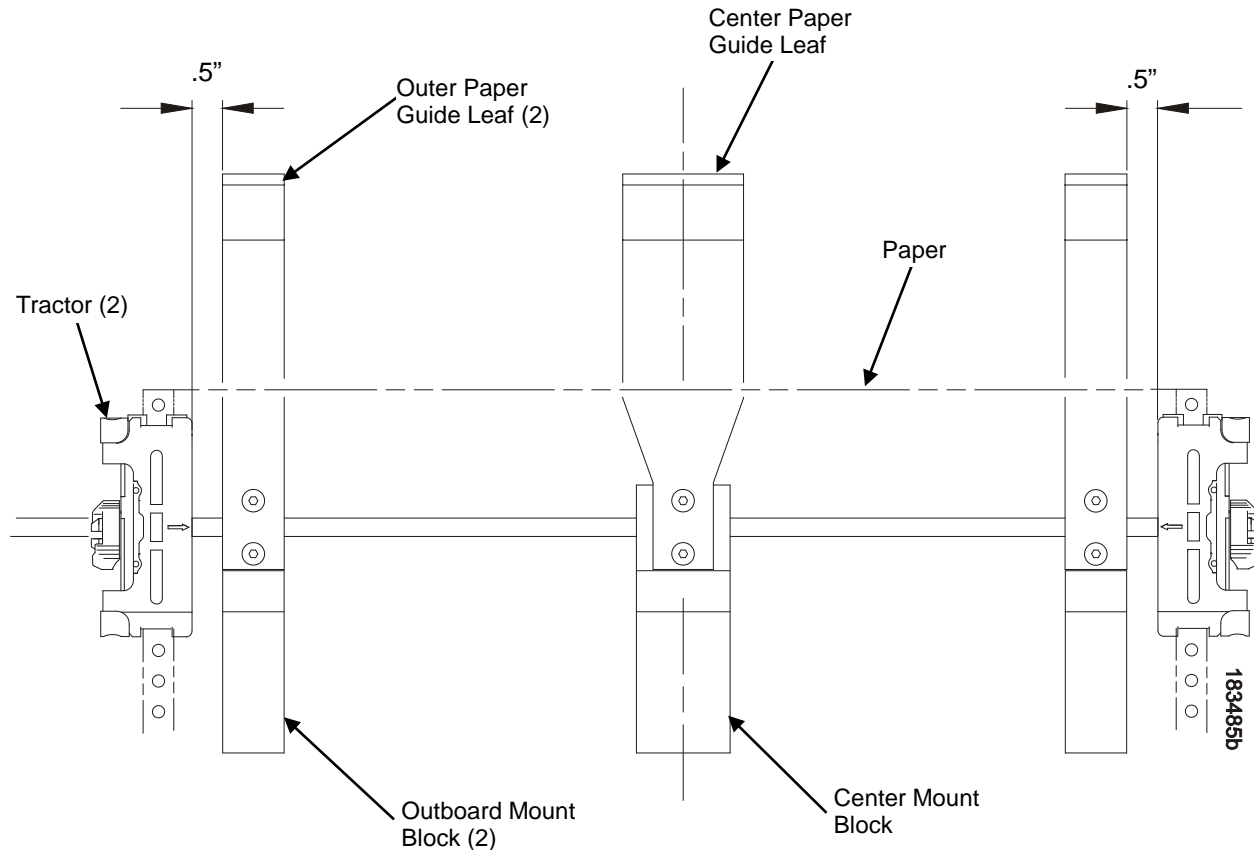

Figure 37 Adjusting Paper Guide Leaves
4. Slide the left outboard mount block so that the left outer paper guide leaf is .5 inches from the left tractor. (See Figure 37).